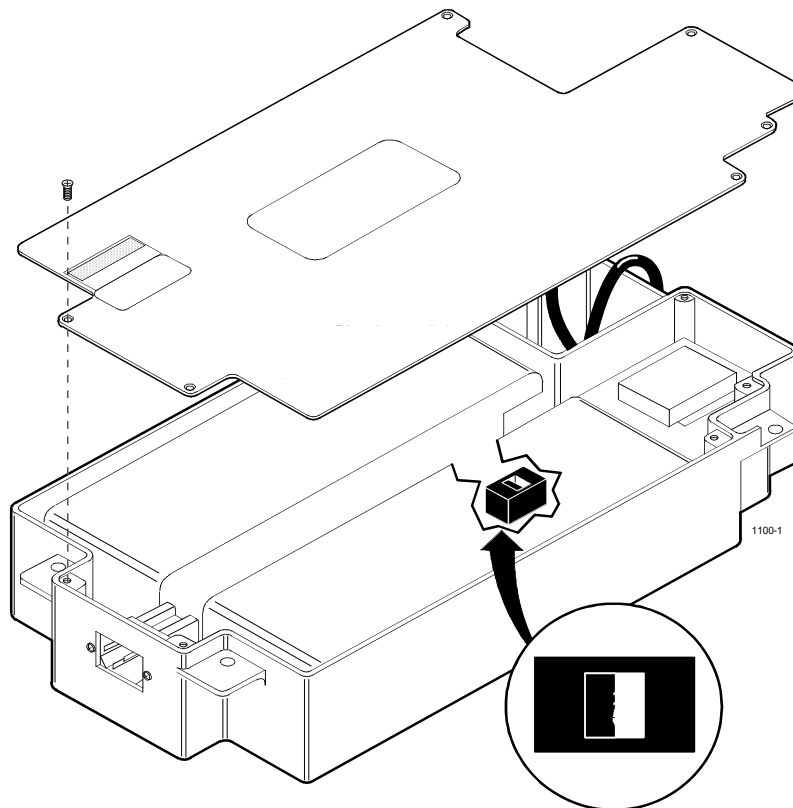

Figure 1-1. 115 VAC/230 VAC Selection Switch
*The battery pack has an internal switch allowing the user to switch operation of the battery pack to 115 VAC or 230 VAC. Before attempting to plug the battery pack into the ac line for charging, ensure this switch is set to the correct position for your line voltage. This switch is accessible by removing six screws attaching the cover to battery pack chassis as shown in figure 1-1.*